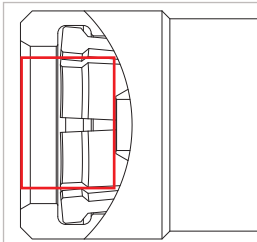

Figure 9
- ▶ Prior to this check, be sure to purge the WEH® Product with nitrogen or compressed air at the following areas (*Figure 9*):